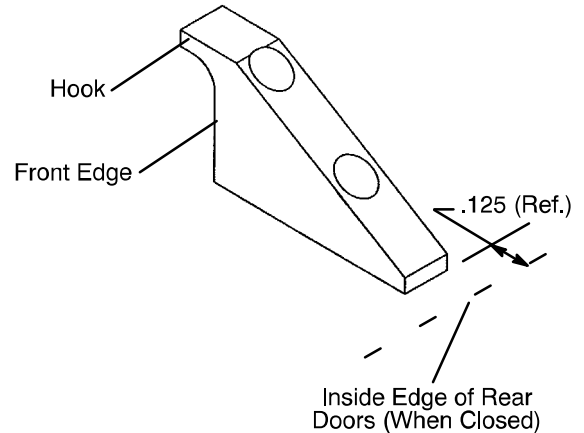

Figure 3 – Safety Hook
3. Center the safety hook (Figure 3) on the cot safety bar. Be sure the hook is facing the front of the vehicle.